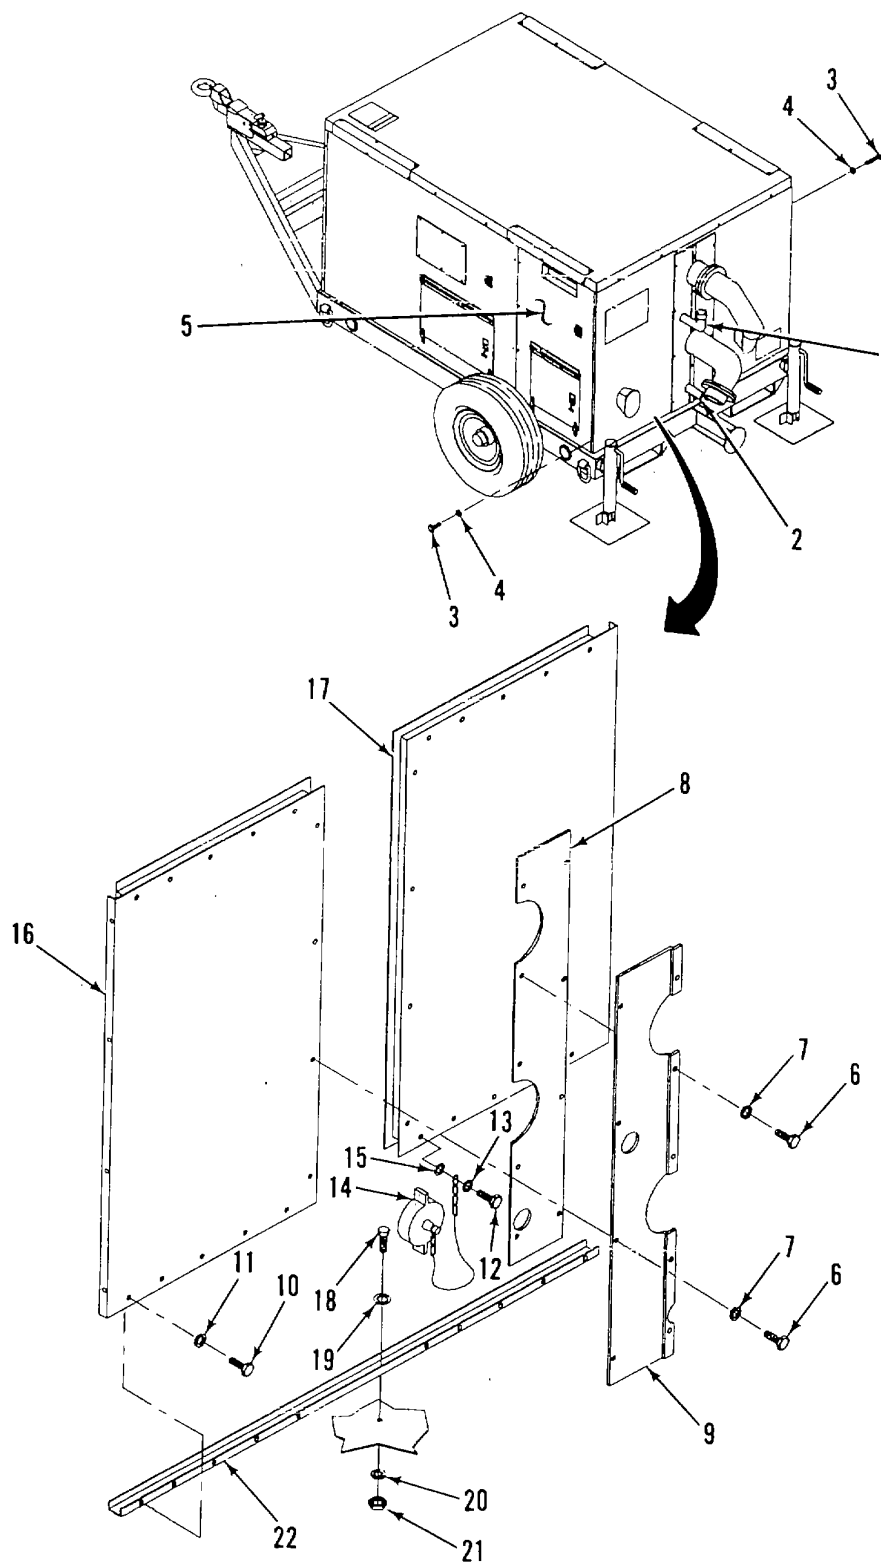

Figure 3-3. Rear Panels
a. REMOVE. (Figure 3-3)
- (1) Remove priming pipe (1).
- (2) Remove drain pipe (2).
- (3) Remove bolts (3) and flat washers (4) at side panels (5).
- (4) Remove bolts (6) and flat washer (7).
- (5) Remove left (8) and right (9) center plates.
- (6) Remove bolts (10) and flat washers (11).
- (7) Remove bolt (12), flat washer (13), drain cap chain (14), and flat washer (15).
- (8) Remove left (16) and right (17) rear panels.
- (9) Remove bolts (18), flat washers (19), lockwashers (20), and nut (21).
- (10) Remove panel mounting bracket (22).